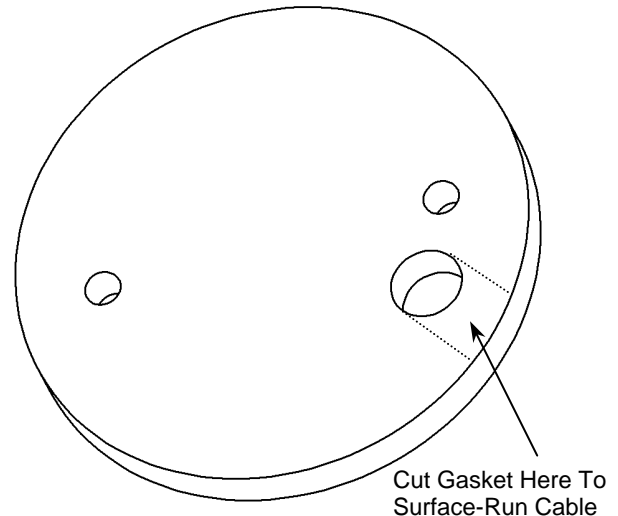

Figure 1: Base Adapter Gasket
- 1 The first step in installing the SA-MIC is to decide if the cable will be concealed into the panel or wall behind the microphone, or if the cable will be run along the mounting surface. If the cable is to be surface-run, then the base adapter gasket should be cut with a pair of scissors or a sharp knife at the edge of the cable grommet hole. See **Figure 1** at the right.